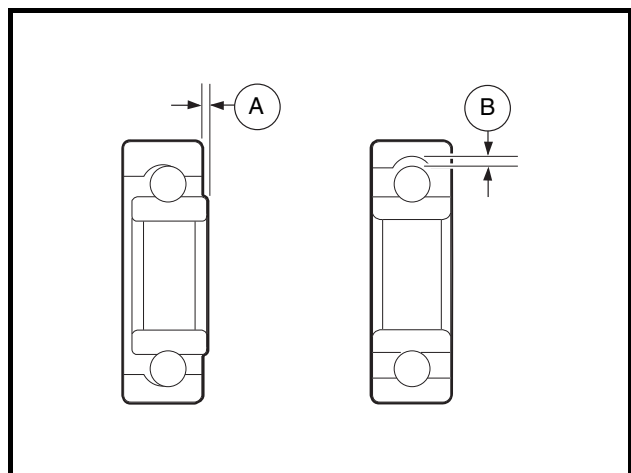

Figure 27-14 Bearing Inspection
3. Use a clean cloth to wipe the carbon dust off of the bearing. Inspect the bearing by spinning it by hand and checking for both axial (A) and radial (B) play (**Figure 27-14, Page 27-9**).